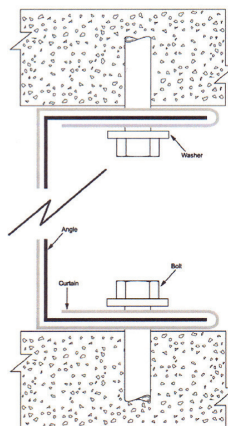

Figure 1
2. Fold edge of curtain around a mild steel framing angle with dimensions of 40 mm x 50 mm x 0.8 mm  $\leq$  1mm. As shown in figure 1.
5. Secure the top perimeter framing angle, followed by fixing and side perimeter angles, as specified above. N.B. The curtain must cover three sides of the angle, as shown in Figure 1.